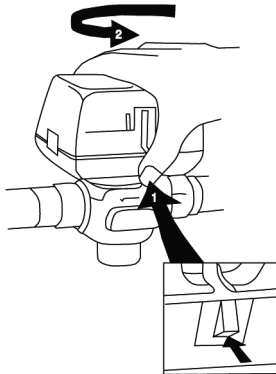

Fig. 2. Latch Mechanism to detach Actuator
1. The actuator head is automatically latched to the valve. Align the coupling hole in the bottom of the actuator with the valve stem. Press the actuator down towards the body with moderate hand force and turn the actuator counter-clockwise by 1/8 turn (45 degrees) to line up the actuator with the piping. The latch will click when engaged. See Fig. 2.
4. The actuator head is automatically latched to the valve. To remove, press up on the latch mechanism with your thumb. It is located directly below the white manual open lever (see Fig. 2). Simultaneously press the actuator down towards the body with moderate hand force and turn the actuator counter-clockwise by 1/8 turn (45 degrees). Lift the actuator off the valve body.
5. Install the new actuator by reversing the process in (4).